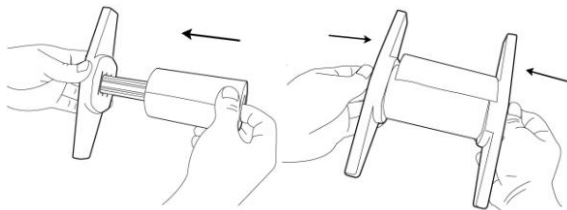

Figure 10-1 (1inch media core inner)
2. According to media core inner size and load the media roll onto the media hanger. (Figure 10-1 and 10-2)